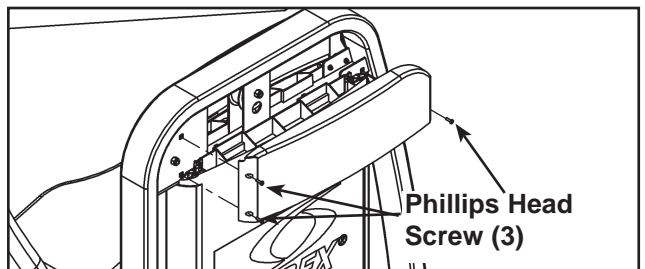

Figure 16
- C. Install the three Phillips head screws securing the top (back) shroud. See Figure 16.